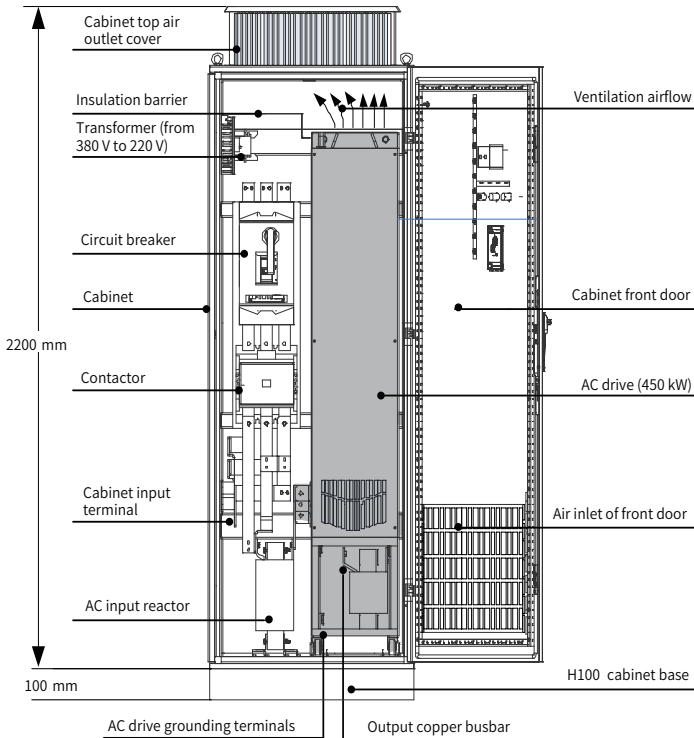

Figure 2-12 Recommended cabinet layout
- ◆ See Figure 2-12 for cabinet layout before mounting the AC drive in a cabinet. The dimensions of cabinet rack are 2200 x 800 x 600 (H200 cabinet ventilation top cover included, unit: mm). The H100 cabinet base is required for installing the cabinet. A windscreen must be installed on the cabinet top to avoid circulation of hot air inside the cabinet. Air inlets must be provided at the lower part of the cabinet door.